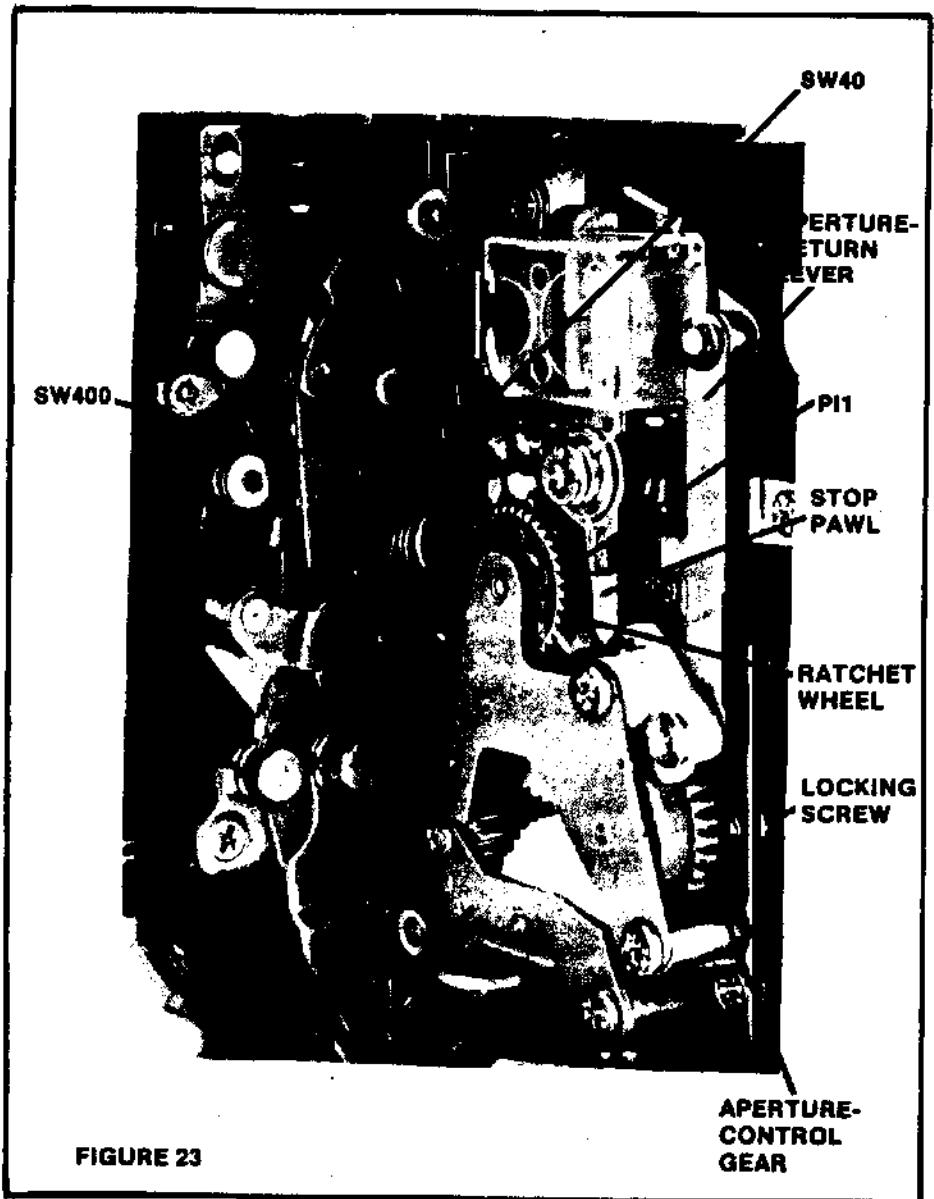
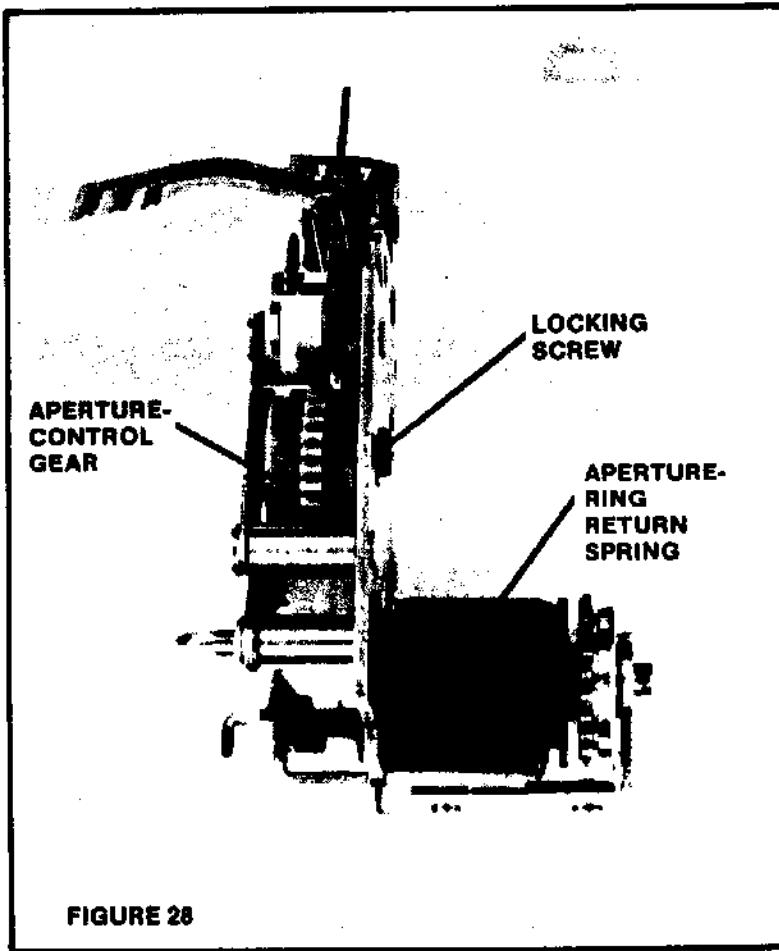

FIGURE 23
FIGURE 28
SW40. Mirror-up switch on mirror box, Fig. 23. Closes when the
SW400. Motor switch on mirror box, Fig. 23. Closes when the mirror is part way up. When the motor then switches to forward rotation, SW400 keeps M1 running until SW4 closes.
1. PI1. On the mirror box, Fig. 23. The interrupter disc rotates as the diaphragm closes, providing a sine-wave signal to IC4 (feedback for diaphragm position).
D. As the diaphragm closes, optical encoder P11 supplies a series of pulses to IC4 (8 pulses per f/stop). IC4 changes the sine wave to a square wave and sends the count to IC1. IC1 compares the count with that stored in memory. To stop the diaphragm at the proper aperture, IC1 sends a stop signal through I/O bus to IC4. IC4 pin 18 switches L, sending current through the aperture magnet SL3. SL3 separates, latching the ratchet wheel, Fig. 23, to stop the aperture ring.
E. As the mirror moves up, SW400, Fig. 23, closes. Closing SW400 will later keep M1 running in the forward direction until the winding-completion switch SW4 closes (during the wind cycle). One of the two switches must be closed before IC1 will supply the signals to run M1 in the forward direction.
2. If you're going to remove both the aperture ring and the clutch unit of the mirror box, Fig. 22, the aperture-ring return spring will unwind. Before removing the aperture ring, install a 1.5mm screw into the threaded hole at the front of the aperture-control unit, Fig. 23 (you can use the screw you removed to take out the winding-base plate, front of camera, Fig. 14). The screw then blocks the shoulder of the gray aperture-control gear, Fig. 28, and prevents the spring from unwinding. The proper initial tension is 6.7 turns. However, Minolta recommends replacing the aperture-control unit, Fig. 28, rather than attempting to retension the spring. A replacement aperture-control unit comes with the locking screw in place, holding the proper amount of initial tension.